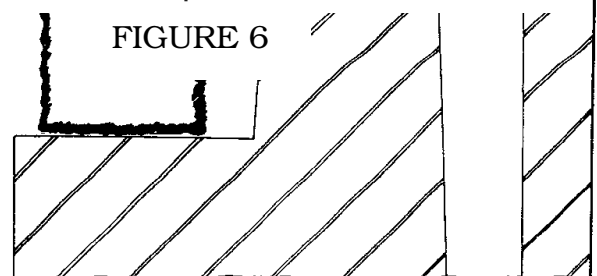

FIGURE 6
5.2. With reference to Figure 6, lay the coals as follows:-